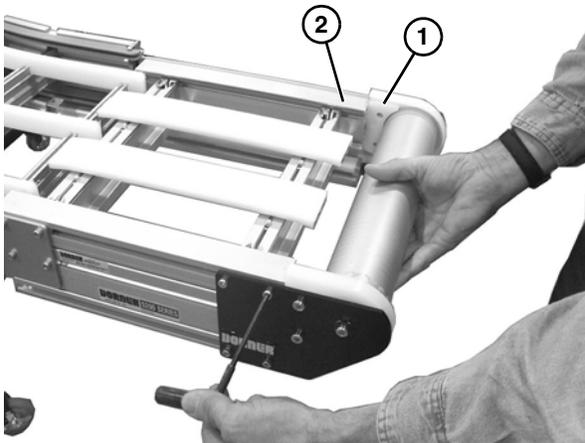

Figure 53
When reinstalling the idler spindle tail assembly, the idler terminal assembly (**Figure 53, item 1**) should mate flush with the conveyor frame (**Figure 53, item 2**).